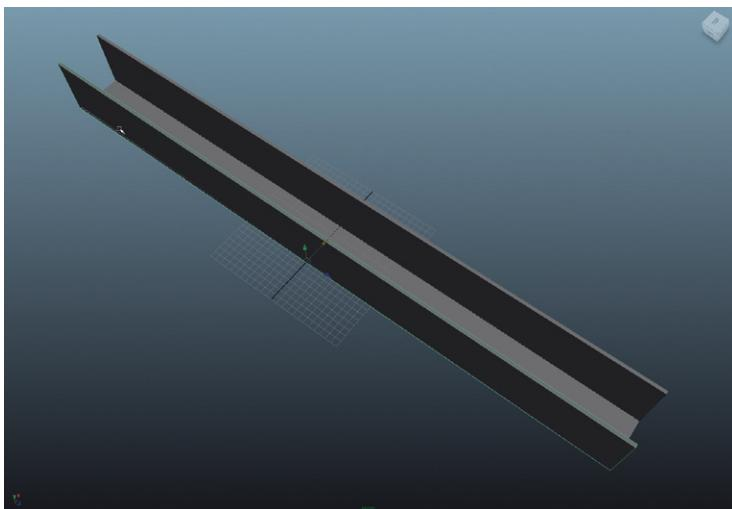

FIG 3.15 Duplicated wall snapped to other side of the hallway.
Step 22: Snap the new wall to the other side of the hallway. Do this by making sure that ETM_HallWallEast1 is selected in the Outliner, then using the Move Tool and holding v down, move (and snap) the wall to the other side of the wall (Fig. 3.15).